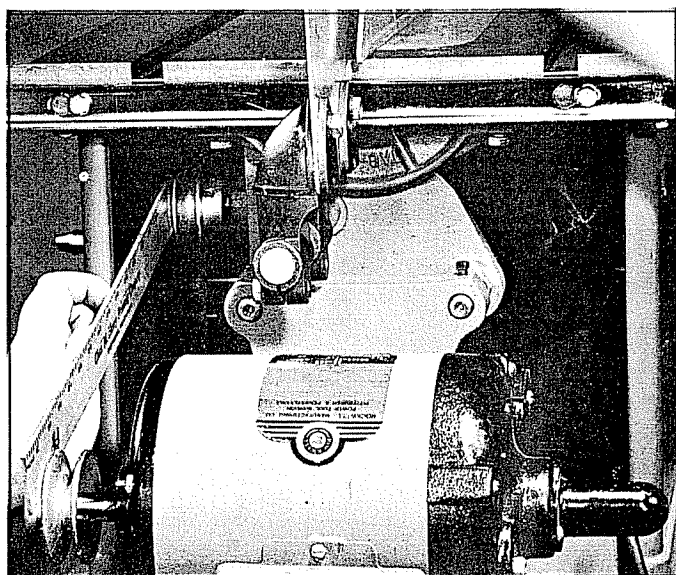

Fig. 6.
6. Using a straight edge, align the motor pulley with the arbor pulley, as shown in Fig. 6. Then tighten set screw in the motor pulley.